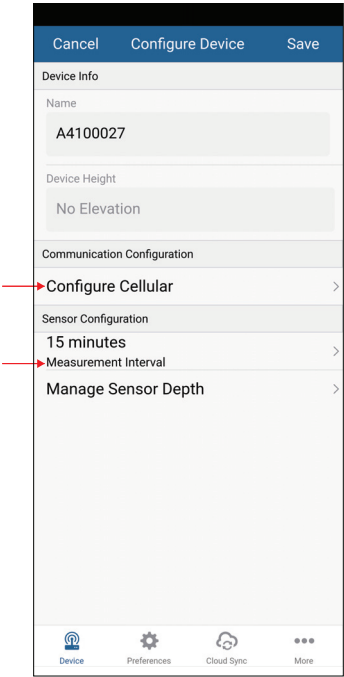

Figure 5 Configure Device information screen
The **Configure Device** screen will appear (Figure 5).
- 4. **OPTIONAL** Change device name (Figure 5).
- 5. **OPTIONAL** In the **Configure Device** window, set the measurement interval to the desired interval (Figure 5).
- 7. **OPTIONAL** In the **Communication Configuration** section of the **Configure Device**, select **Configure Cellular** (Figure 5).